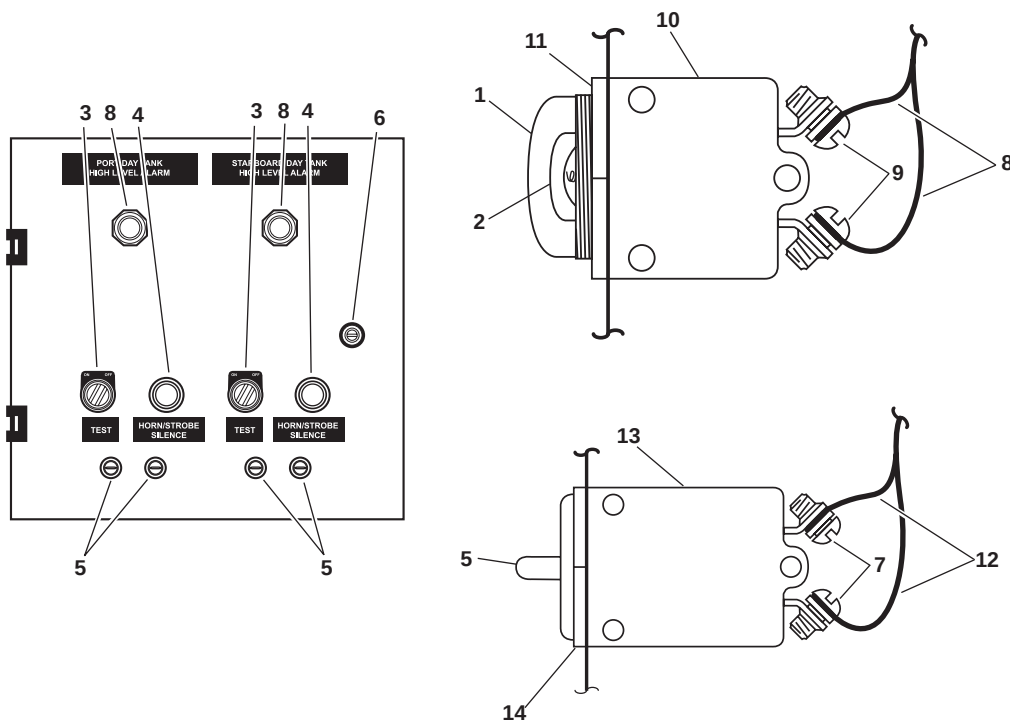

Figure 5. Day Tank High Level Alarm Panel
2. Remove the protective lens cover (figure 5, item 1).
3. Remove the bulb (figure 5, item 2).
1. Install the bulb (figure 5, item 2) finger tight.
2. Install the protective lens cover (figure 5, item 1) finger tight.
6. Cycle the TEST switch (figure 5, item 3) from OFF to ON and back to OFF to test the alarm circuit function.
7. Press and release the HORN/STROBE SILENCE switch (figure 5, item 4) to silence the alarm.
2. Remove the fuse holder (figure 5, item 5) from the panel.
3. Remove the fuse from the fuse holder (figure 5, item 5).
1. Install the fuse in the fuse holder (figure 5, item 5).
2. Install the fuse holder (figure 5, item 5) in the panel finger tight.
2. Loosen the captive screw (figure 5, item 6) and open the alarm panel.
3. Use a multimeter to check for voltage at the terminals (figure 5, item 7) on the back of the fuse holders (figure 5, item 5). If voltage is present, ensure that the correct circuit breaker is set to OFF, locked out, and tagged out (FM 55-502). If no voltage is present, continue with the procedure.
4. Label and remove the wires (figure 5, item 8) from the terminals (figure 5, item 9) of the lamp assembly (figure 5, item 10).
5. Remove the retaining nut (figure 5, item 11), and remove the lamp assembly (figure 5, item 10) from the alarm panel.
1. Install the lamp assembly (figure 5, item 10) in the alarm panel and secure it with the retaining nut (figure 5, item 11).
2. Install the wires (figure 5, item 8) to the lamp assembly (figure 5, item 11) using the labels from step 4 of Removal as a guide. Remove the labels.
3. Close the alarm panel and tighten the captive screw (figure 5, item 6).
2. Loosen the captive screw (figure 5, item 6) and open the panel.
4. Label and remove the wires (figure 5, item 12) from the terminals (figure 5, item 7) of the fuse holder assembly (figure 5, item 13).
5. Remove the retaining nut (figure 5, item 14) and remove the fuse holder assembly (figure 5, item 13) from the alarm panel.
1. Install the fuse holder assembly (figure 5, item 13) in the alarm panel and secure it with the retaining nut (figure 5, item 14).
2. Install the wires (figure 5, item 12) to the fuse holder assembly (figure 5, item 13) using the labels from step 4 of Removal as a guide. Remove the labels.
3. Close the alarm panel and secure it with the captive screw (figure 5, item 6).